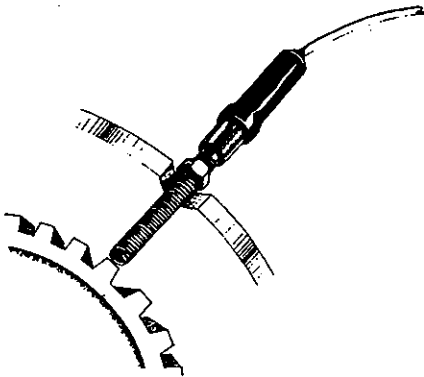

Figure 21 — RPM Sensor
5. RPM Sensor Loss Lamp: The generator is equipped with an RPM Sensor mounted over the engine flywheel gear teeth.(Figure 21). The sensor is a magnetic pickup